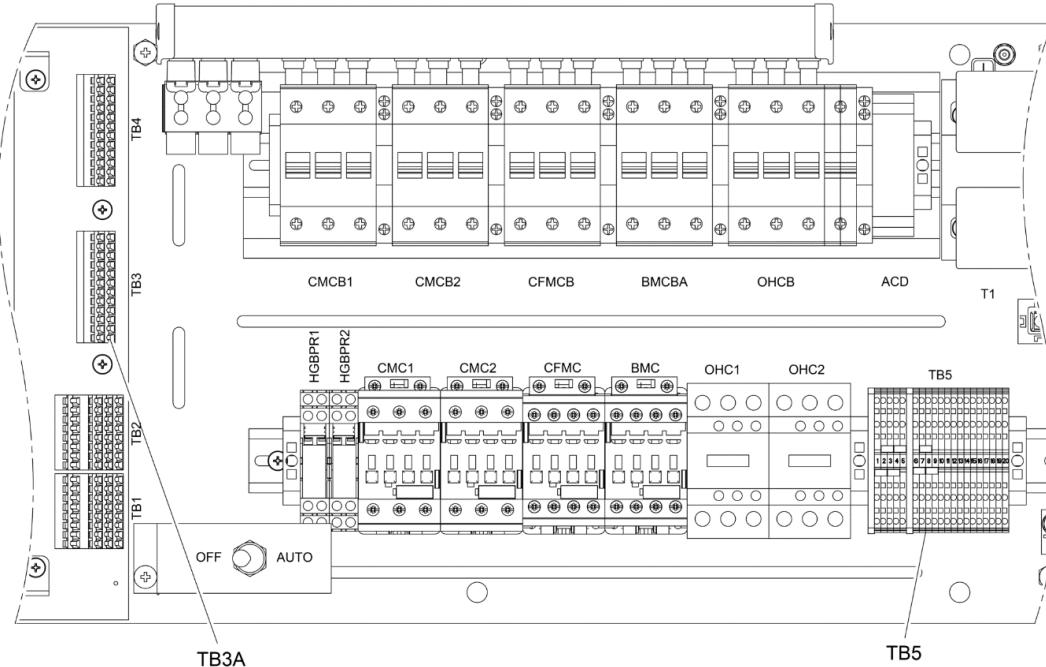
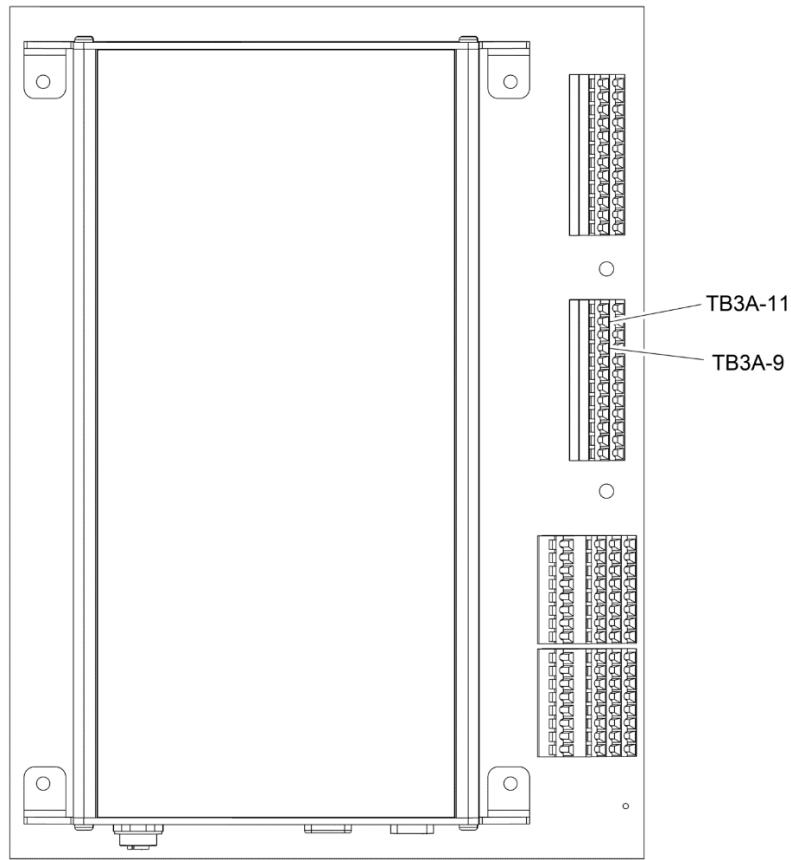

Figure 8-4: Terminal Block – TB3 and TB5
Figure 8-5: ACCU Backplane, TB3
1. Using a multimeter, set to DC voltage. Refer to Figure 8-4 and Figure 8-5 for location of control panel terminal blocks and terminals.